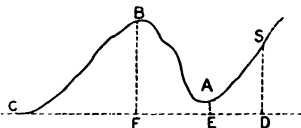

Fig. 41.
12. Let *CD* (Fig. 41) be a horizontal line, *A* and *C* two valleys on opposite sides of the hill *B*. Let vertical *BF* be 45 ft., *AE* be 7 ft., and *SD* be 30 ft. Can the water be siphoned from a tank at *A* to *C*? (b) Can it be siphoned from *S* to *C*? Why or why not?